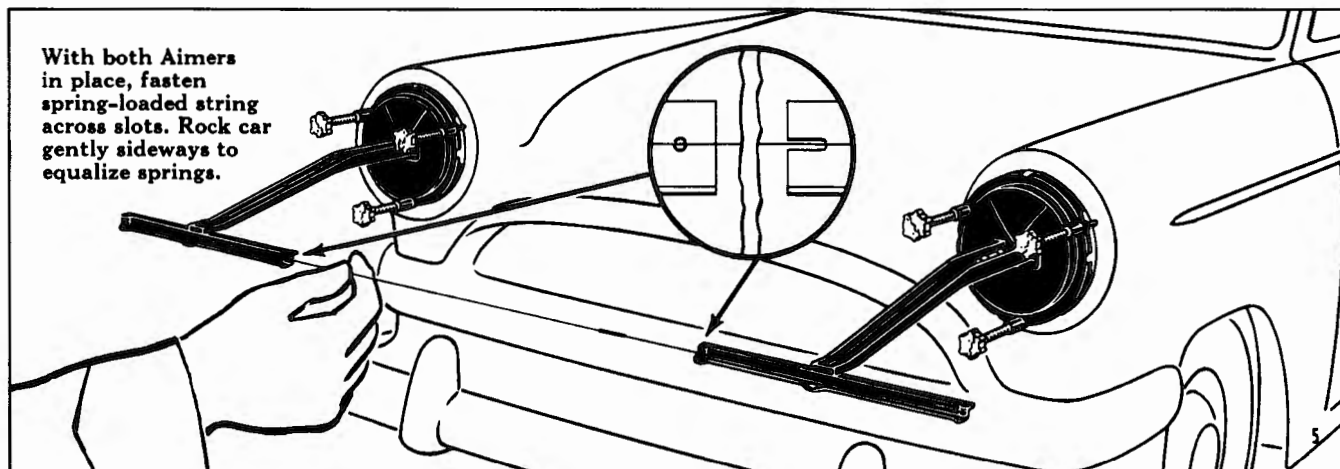

Fig 12-64 Safety-Aim Headlamp and Aimer
4. Fasten spring loaded string from left aimer across slots to far side of right hand aimer (Fig. 12-64). Rotate aimers so string is level with slots on inner end of each cross arm.